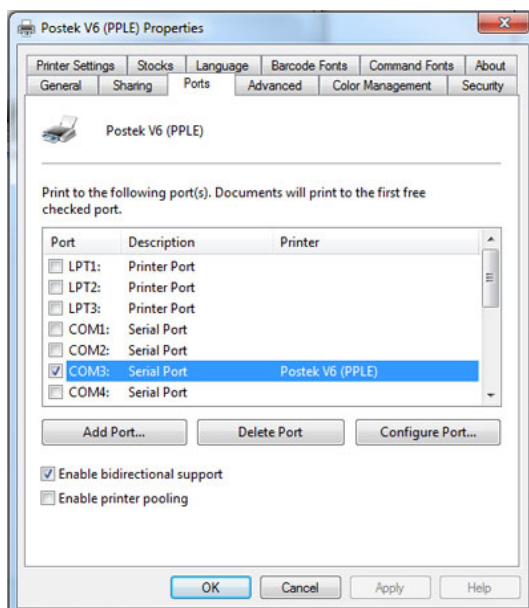

Figure 3-8
5. Next, right click on the V6 driver, select the Printer Properties option, and select the Ports tab. Place a checkmark next to the assigned port and **Apply** the port. Once the port is applied, it will show next to the port in the port list, as shown in Figure 3-8.